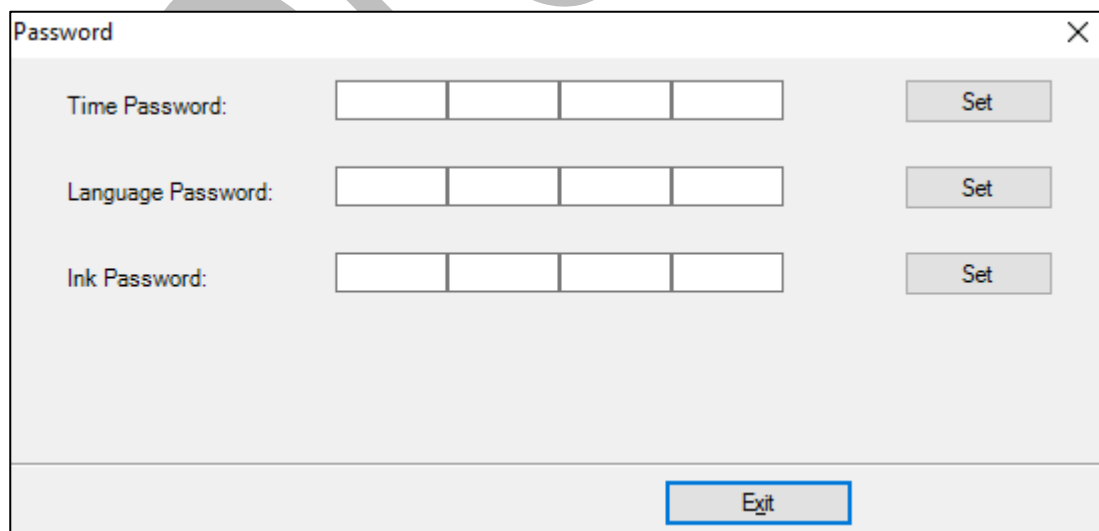

Fig 44: The Password Window
**Step 2:** Set values in the **Time Password** and **Language Password** fields as per the requirements (Refer to Fig 44).
**Step 3:** After feeding the passwords, *click* on the **Set** button in front of both the options (Refer to Fig 44).
**Step 4:** *Click* on the **Exit** button to close the **Password** window (Refer to Fig 44).